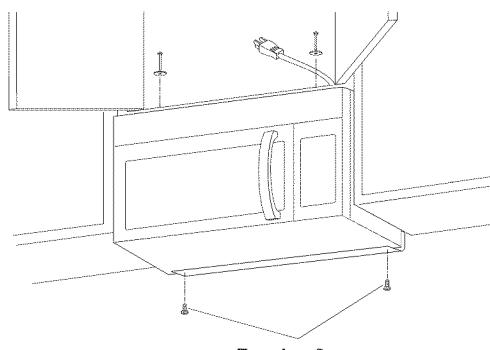

**Figure 13**
2. **IMPORTANT** Use the mounting template provided to Use wood screws to attach mounting plate to the stud or studs. Use Toggle Bolts to attach mounting plate through the holes UNLESS THOSE HOLES ARE LOCATED ON THE STUD. Insert one Toggle Bolt where appropriate (these correspond to holes of the Wall Template) and put the Toggle Nuts onto the Toggle Bolts. Figure 13. Refer to instructions in Wall Template.